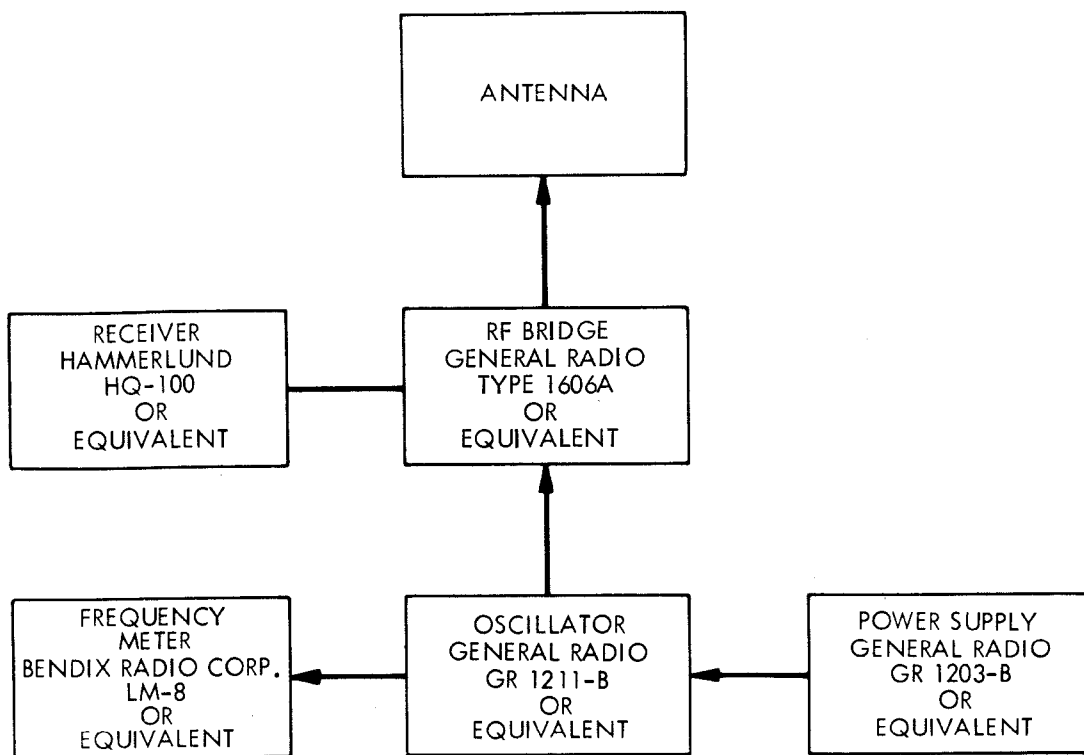

Figure 4-1. Tuning (Frequency) Tests, Test Equipment Arrangement
a. Connect test equipment as shown in figure 4-1.
b. Disconnect the r-f power cable from the line section and connect to the bridge (figure 4-1).
Connect test equipment as shown in figure 4-1. The VSWR characteristic of this antenna is less than 2 to 1 on a 50 ohm transmission line. A characteristic VSWR curve for this antenna is shown in figure 2-7.